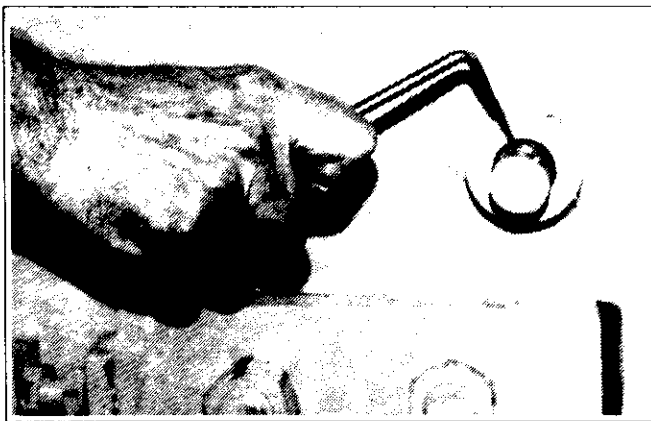

Figure 6-16
5. Slide the shaft outward to expose and remove the outer O-ring from shaft. (See figure 6-16)